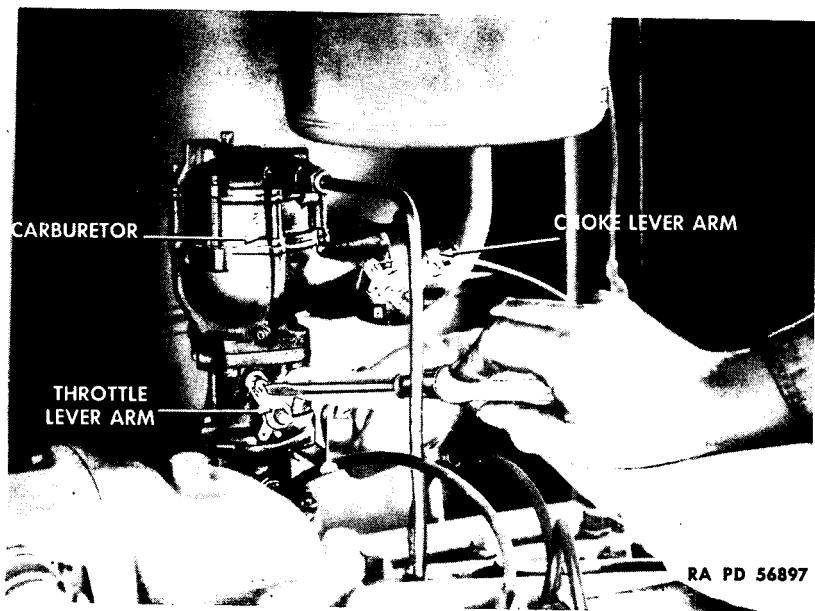

Figure 87—Throttle Wire Installation
(1) REMOVE THROTTLE CONTROL WIRE. Loosen clamping screws holding throttle wire and casing to carburetor throttle lever arm (fig. 87), and remove wire. Loosen bolt through support bracket on top of engine, and remove wire from bracket.
(2) REMOVE CONTROL. Unscrew nut from throttle knob casing on back of instrument panel, and remove nut and lock washer. Remove knob, casing, and wire from the front of the instrument panel.